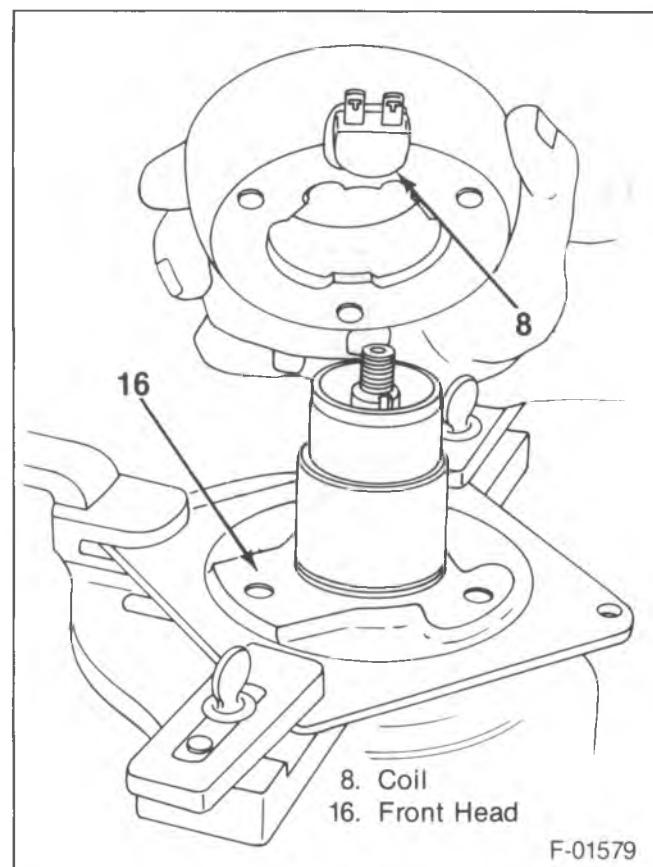

Figure 12—Installing the Coil Housing
- 2. Clutch coil (8) to the front head (16) (figure 12).
- Align the coil and housing assembly on the compressor front head (16) so that the electrical terminals line up the marks scribed on the compressor.
- Align the coil locator projections on the coil housing with the holes in the front head (16).
- 3. Coil and housing retainer ring (7) with J 6435.
- 5. Clutch plate and hub assembly (2).